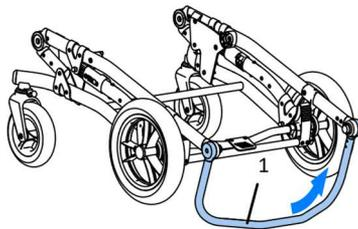

Fig. 6
To unfold the mobility base, place the mobility frame flat on the ground and then pull the push handle (1) Fig. 6, until you hear the characteristic click of the lock.